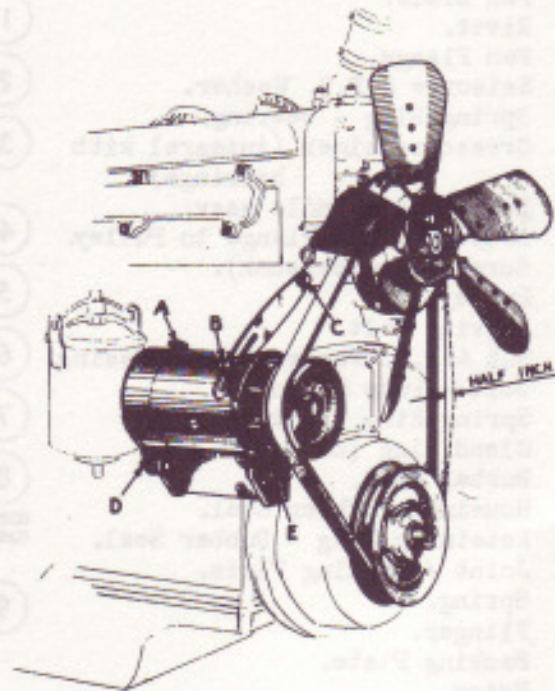

FIG. 6. FAN, DYNAMO AND "V" BELT DRIVE.
Should the belt require adjustment, this is effected by releasing the nut of bolt C a turn or two, the nuts D and E and the setscrew B (See Fig.6) and moving the dynamo outwards on the special slotted link. If a belt is too loose it will slip and wear excessively - if too tight it will cause premature wear to the pump spindle and dynamo bearings.
The tension should be such that the fan belt can be moved transversely, with the fingers, through a total distance of approximately one inch (i.e. half an inch either way) when checked at a point equidistant from the crankshaft pulley and the fan pulley (See Fig.6).
- (i) Release the nuts C, D and E and setscrew B (Fig.6) and swing the dynamo towards the engine, and then disconnect the slotted belt tension adjusting link from the engine by removing the bolt C.